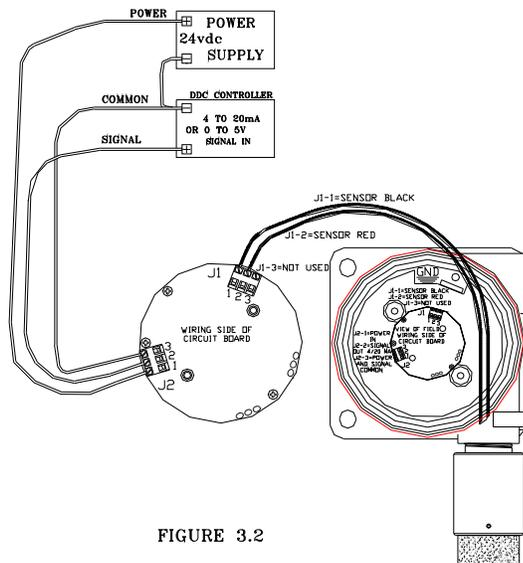

FIGURE 3.2
1. Remove the sensor electronics (figure 3.2) from the module enclosure by:
3. Connect the three (3) wires which run from the controller to the three position terminal strip, J2, on the bottom of the electronics assembly. See figure 3.2. A label glued in the bottom of the sensor housing also indicates which terminal strip is J1 and J2. The label also indicates terminal numbering and identifies which wire goes where. Also reference figure 3.2 in this manual.
4. Reconnect the sensing element leads to the sensor connector on the bottom of the electronic assembly. Figure 3.2.